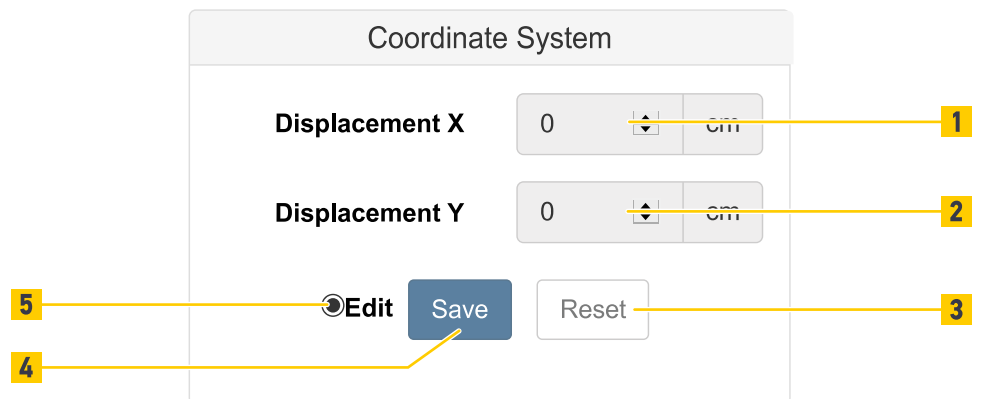

Fig. 88: Coordinate System
- To define the coordinate system activate the Edit button (Fig. 88 /5).
- Specify the displacement (offset) (Fig. 88 /1 and 2) of the blue dot to your coordinate system - or if this is the center of the coordinate system specify it as 0 (zero) point.
- To go back to the last saved settings click the Reset button (Fig. 88 /3).
- To save all the settings in the device click the Save button (Fig. 88 /4).